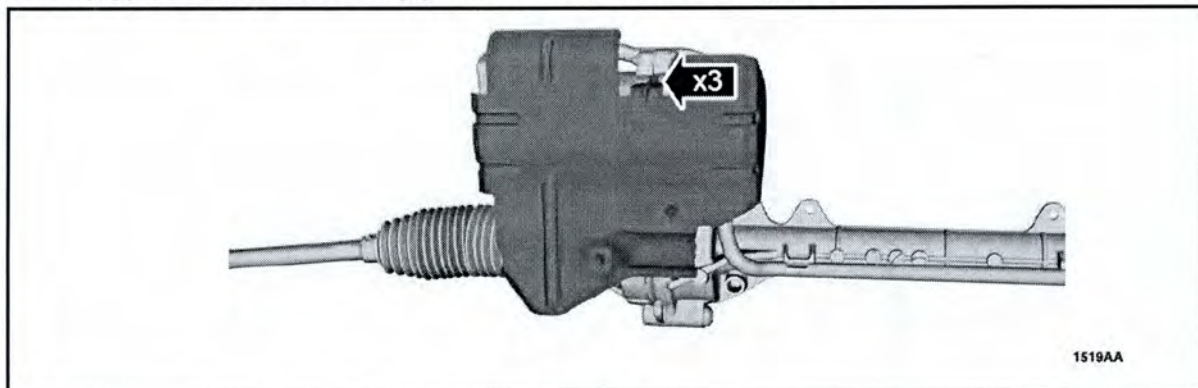

FIGURE 5
3. If equipped, remove the steering gear motor heat shield. See Figure 5.
1. *If equipped, install the steering gear motor heat shield. See Figure 5.*